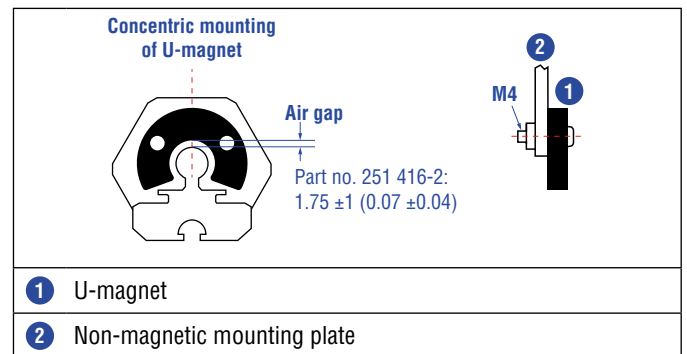
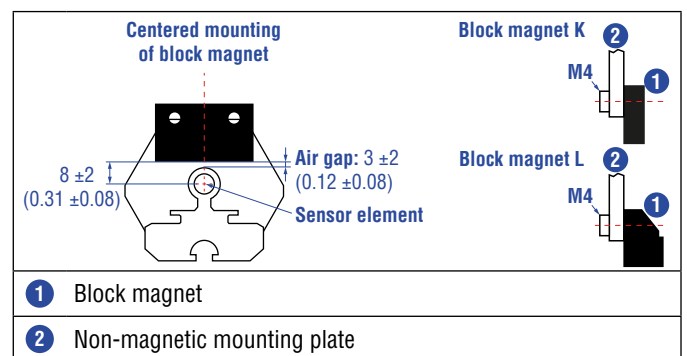

Fig. 46: Mounting of U-magnet (part no. 251 416-2)
Fig. 47: Mounting of block magnet (part no. 403 448)
- The maximum permissible air gap must not be exceeded (Fig. 46/Fig. 47).